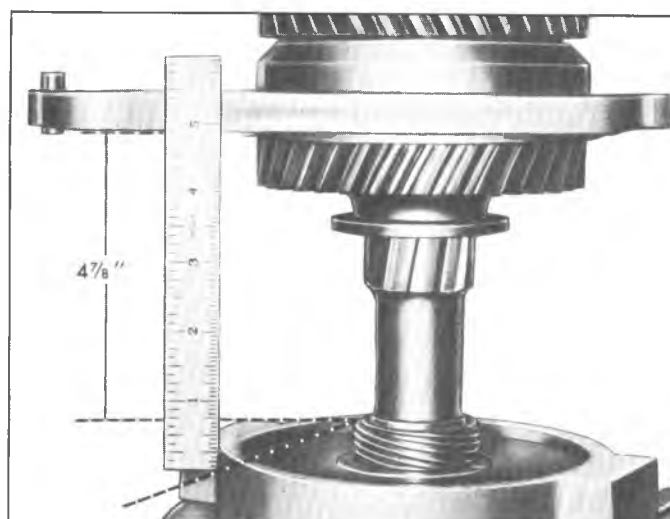

Fig. 14B-Installing Speedometer Gear
11. Install retaining clip and speedometer gear. On models using the metal gear, press speed. Drive gear onto mainshaft using a suitable press plate such as J-1453. Position the gear to obtain a measurement of 4 7/8" from the forward side of the gear to the flat surface of the rear bearing retainer (Fig. 14B).